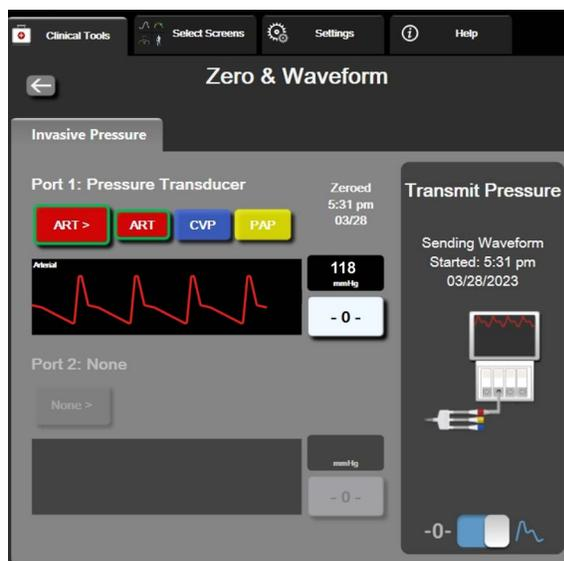

Figure 10-2 Zero & Waveform screen – Zero sensor and Pressure-Out
- 6 Toggle to the **Transmit Waveform** icon  to begin pressure signal output to the patient monitor. A “**Sending Waveform Started:**” message with the timestamp is displayed when the live waveform is being transmitted to the connected patient monitor. See figure 10-2 on page 192.